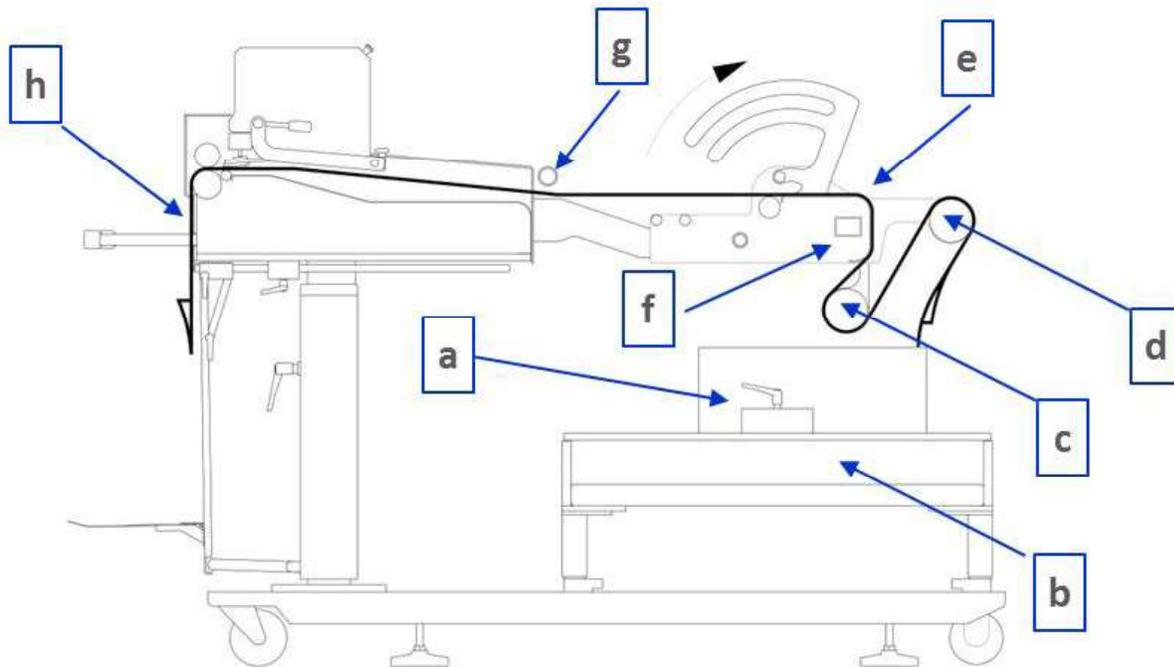

FIGURE 3-21. BAG WEB THREADING DETAIL
1. Press the power switch to ON (I) and follow start-up instructions for homing.
- d. Thread bag web through the open TCU nip and over the two festoon rollers (Figure 3-21, item 1).
5. Thread bag web under the third roller (item 2) leading to the main threading tray.